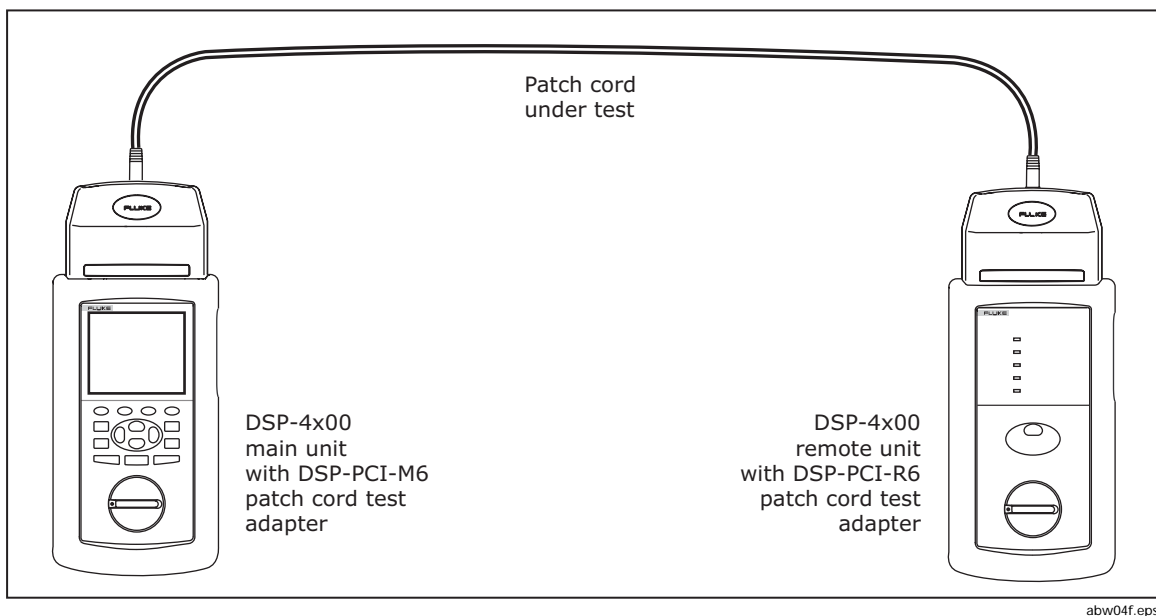

Figure 3. Patch Cord Test Configuration
3. Connect a patch cord to be tested between the main and remote units, as shown in Figure 3.